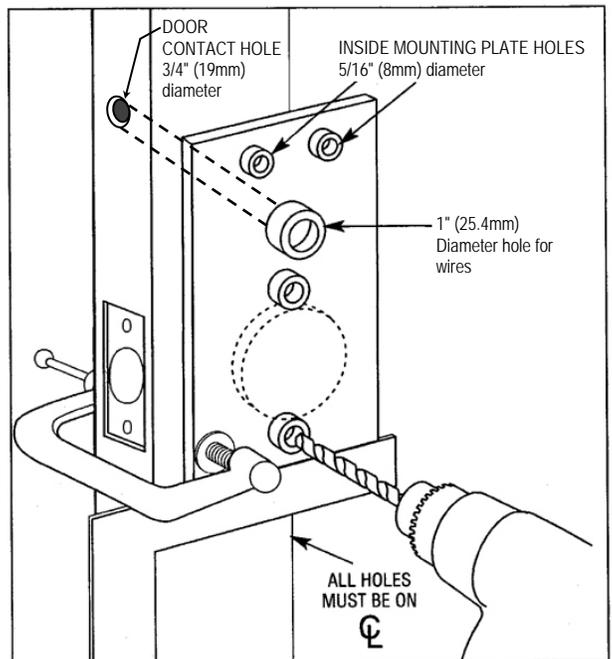

FIG. 2: ALARM LOCK INSTALLATION JIG
Drill a 1/4" hole in door edge to the 1" hole as shown in Fig. 2. Then use a 3/4" bit to enlarge this hole to a depth of 7/8" to allow the Door Contact to fit flush.
2. For best results, align the Installation Jig to door with a square and clamp to door before drilling. See Fig. 2. **Note:** Always protect the door surface from damage when using jigs, clamps and other tools.